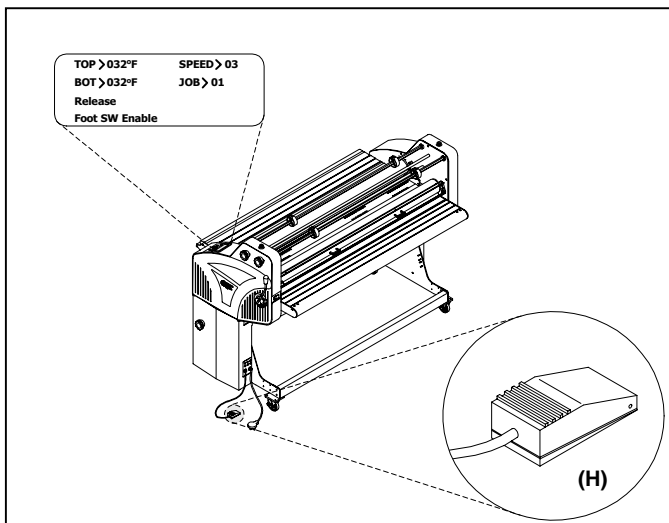

Fig. 12
H. FOOT SW ENABLE: (Figure 12) In this mode permits operation using the footswitch.